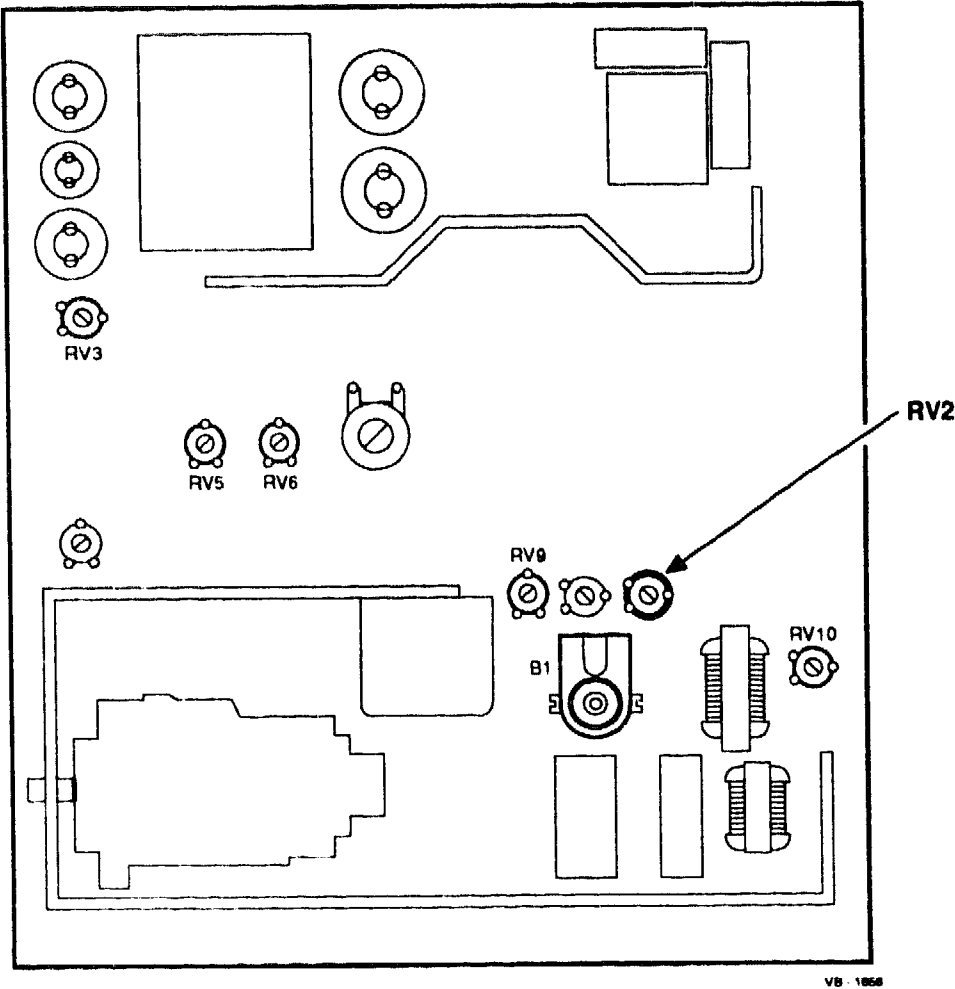
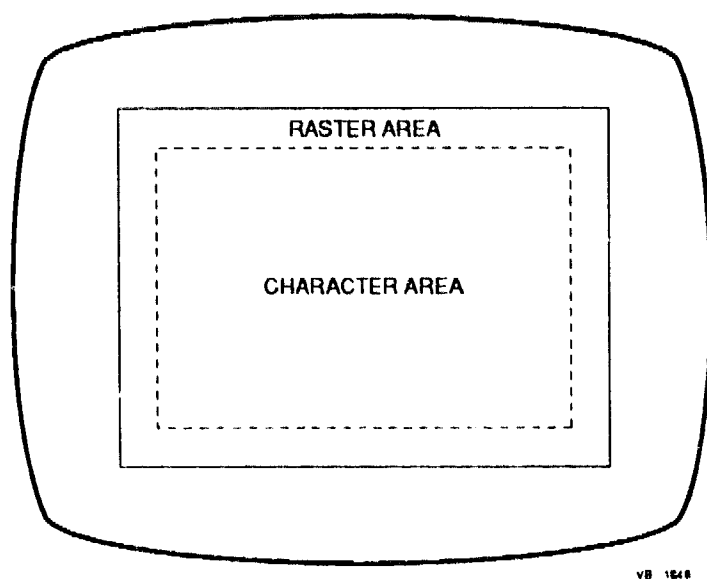

Figure 4-11 Processor Board Trimmer RV2
Figure 4-12 Raster/Character Area
5. Adjust trimmer RV2 on the monitor board (Figure 4-11) to bring the character area to the center of the raster area (Figure 4-12).